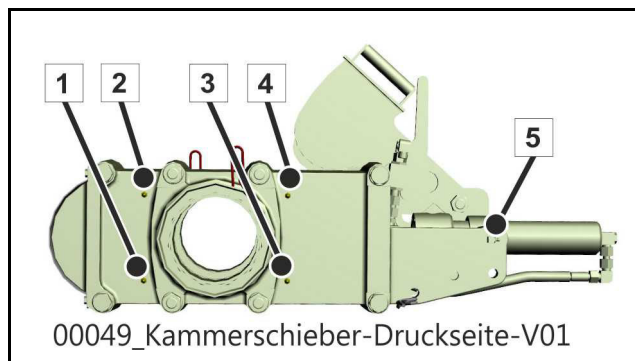
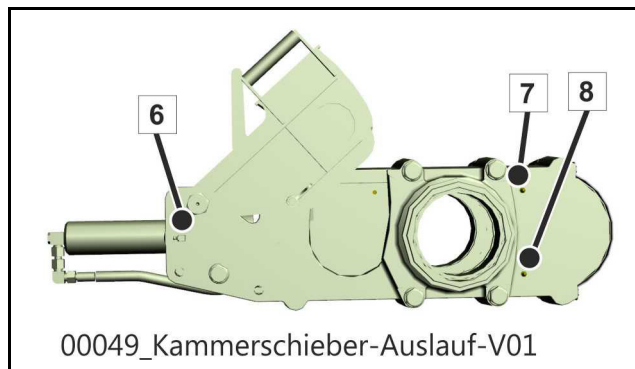

Fig. 470
Fig. 471
- Lubricate all grease nipples (pos. 1-8) (**Fig. 470**) (**Fig. 471**) on the chamber valve.